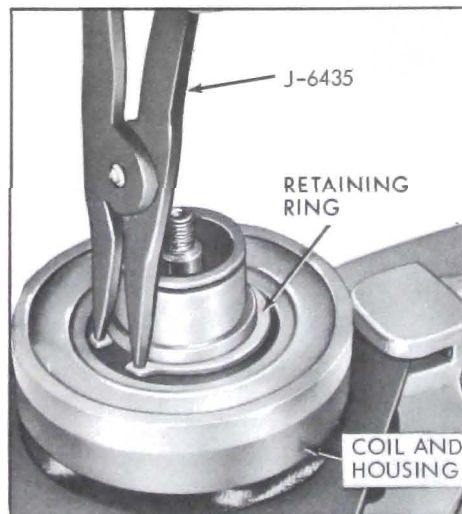

Figure 11-52—Removing Coil and Housing Retaining Ring
4. Use J-6435, No. 26 Truarc pliers and remove coil housing retaining ring, then remove coil assembly. See Figure 11-52.